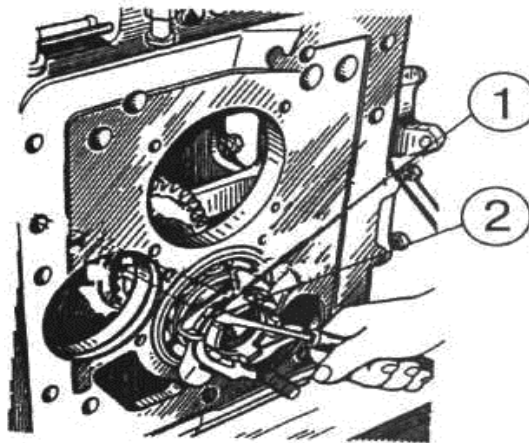

Figure 4.88
a) remove locking ring 2 (Figure 4.88) and impeller 1;